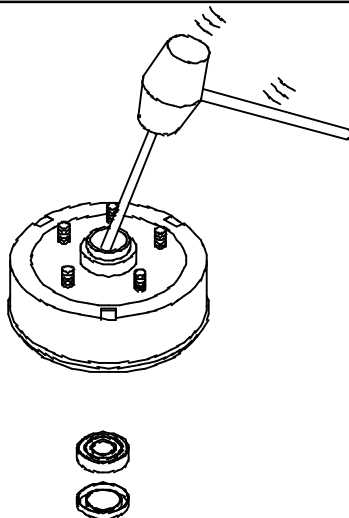

Figure: 4.9.3
2. Remove oil seal and bearing cone (with rollers), remove bearing cup by using a 'drift' or bar through the hub bore, and tapping the cup and oil seal out with a hammer. (See Figure 4-9.3 )